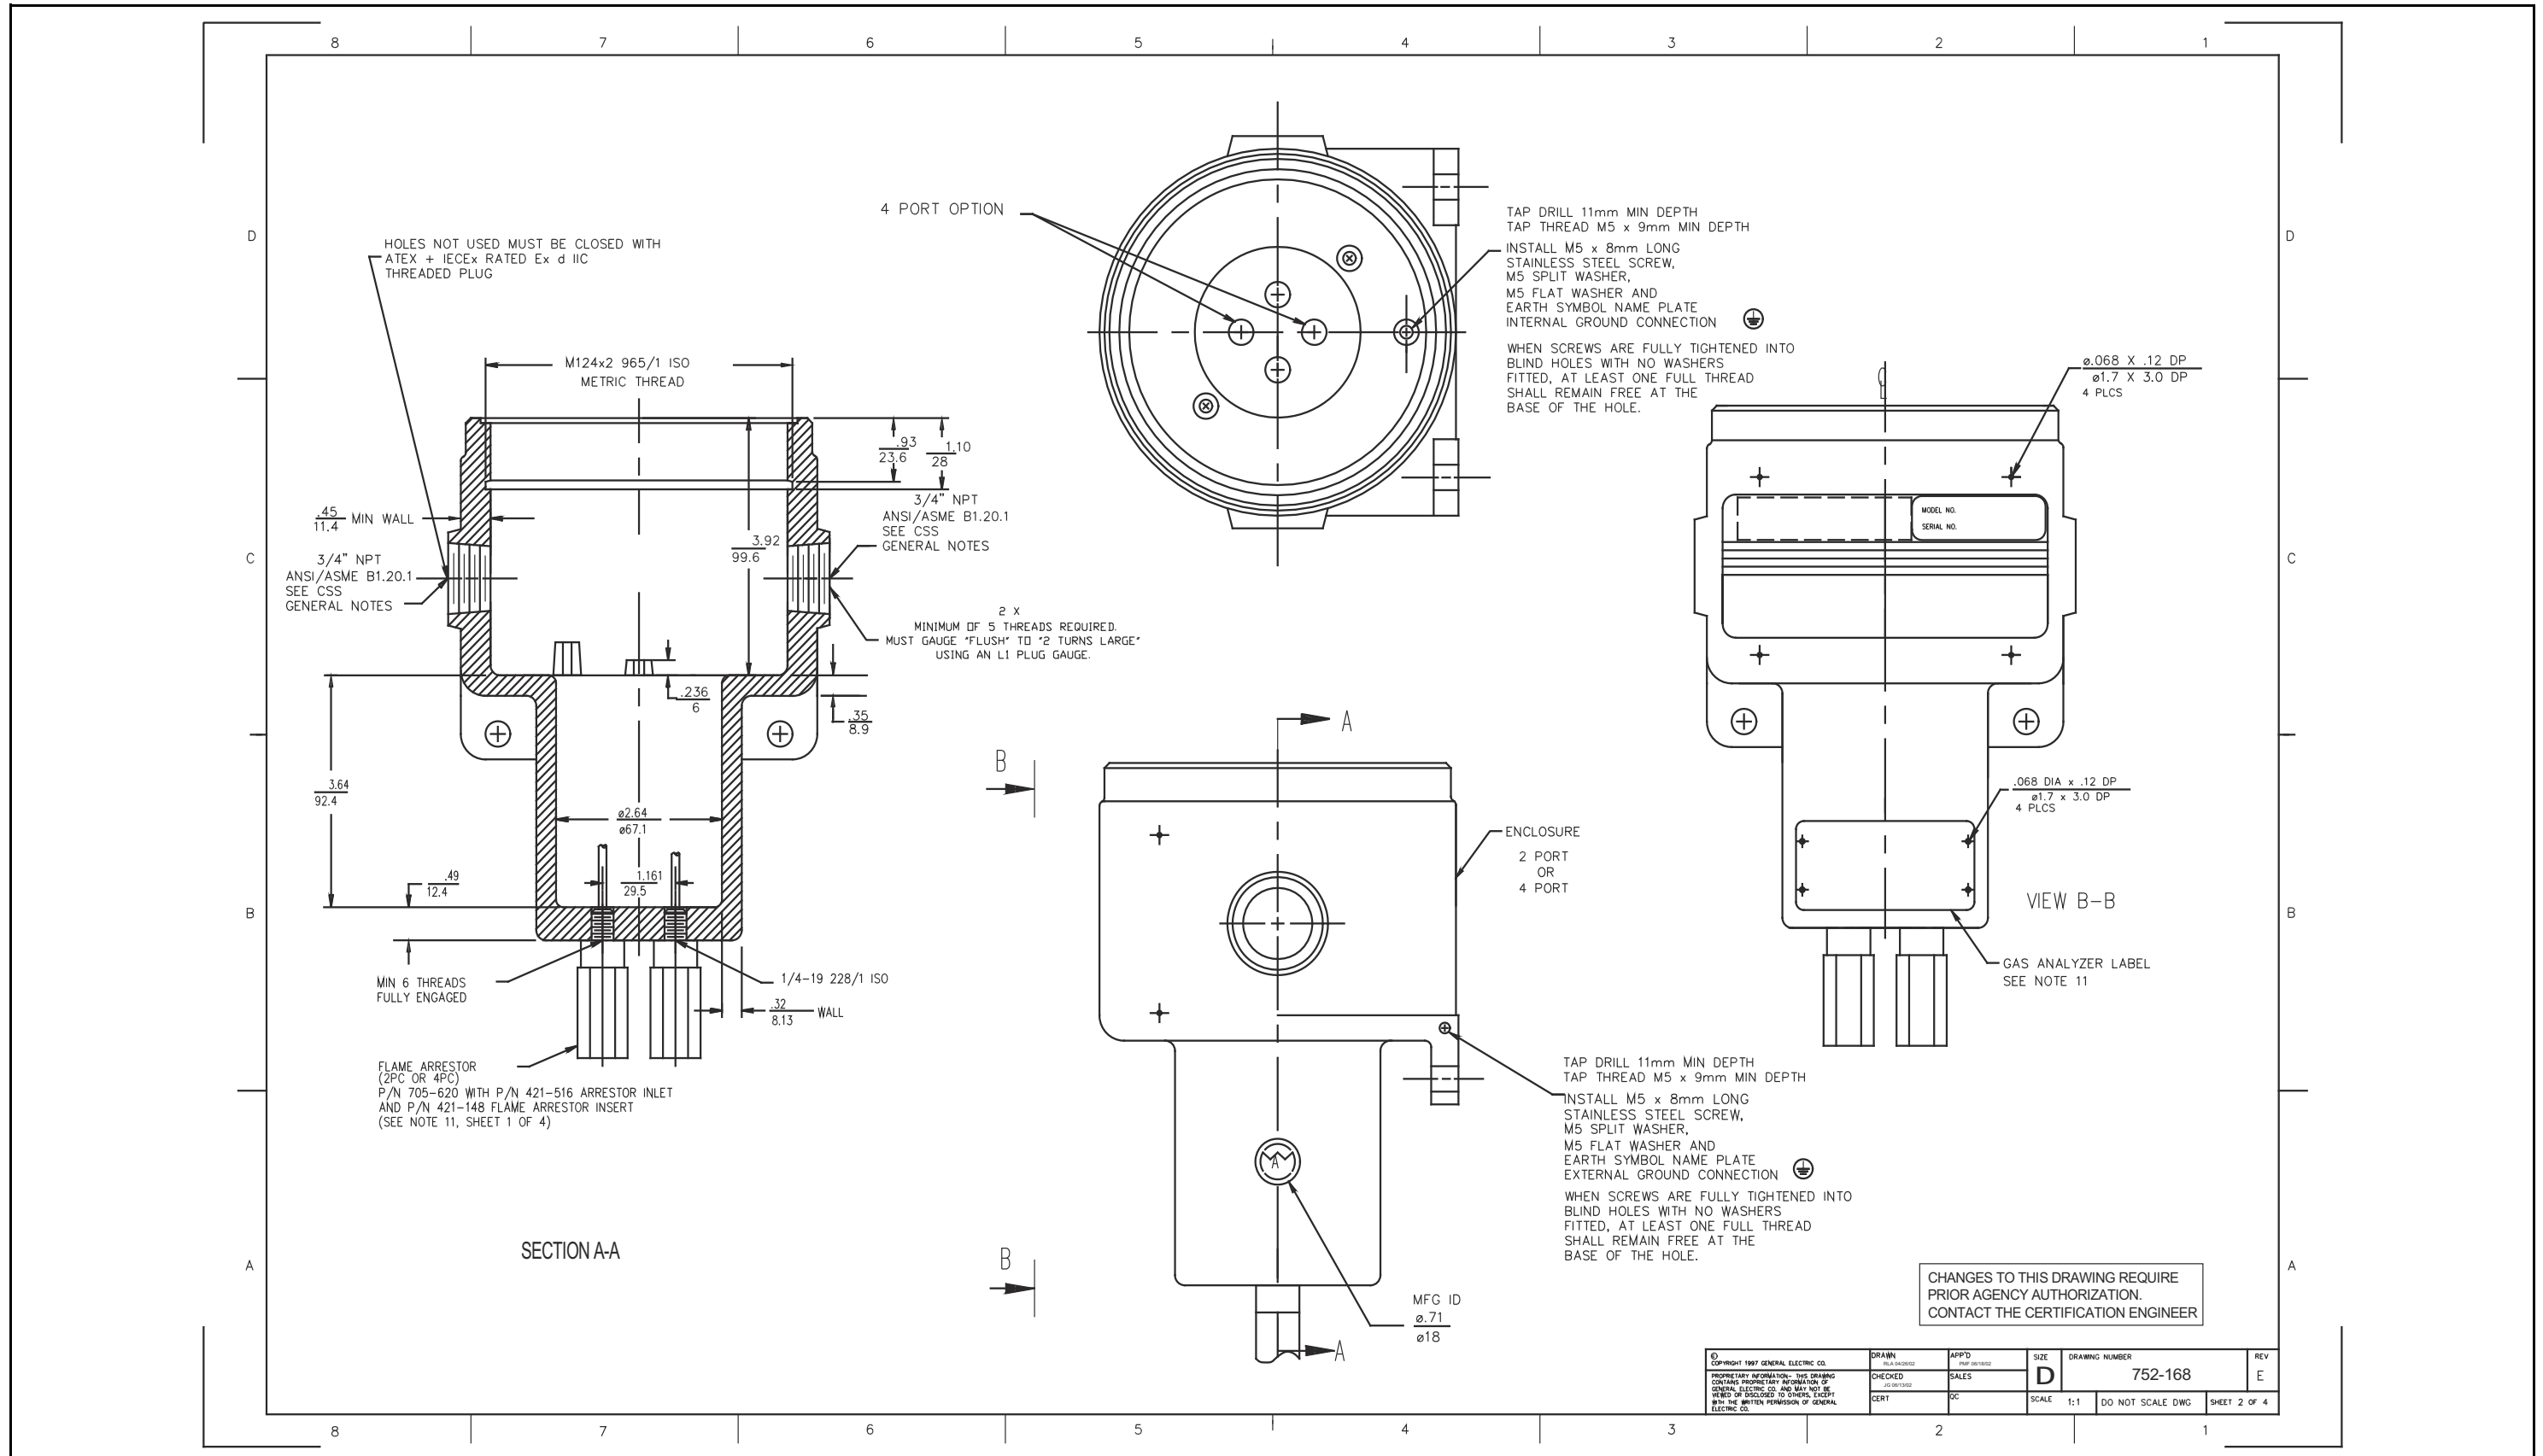

Figure 61: Certification Drawing (ref, 752-168, Rev. E, SH2)
- Figure 61, "Certification Drawing (ref. 752-168, Rev. E, SH2)," on page 72